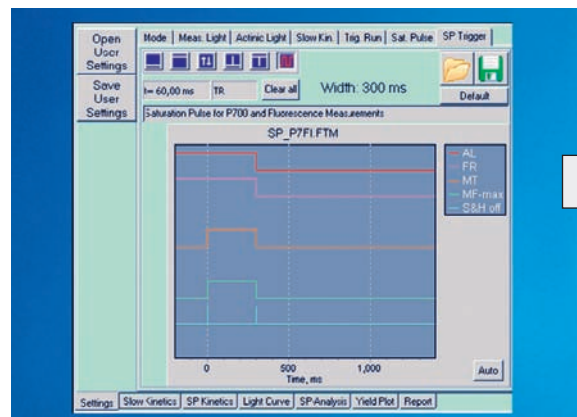

Fig. 4
▶ Trigger and Settings files (Fig. 4)
The various rise phases (Fo-I1, I1-I2 and I2-Fm) reflect different electron transfer steps in PS II. The Trigger Settings for switching on/off Measuring Light and maximal frequency are pre-programmed for optimal performance (see Fig. 4).